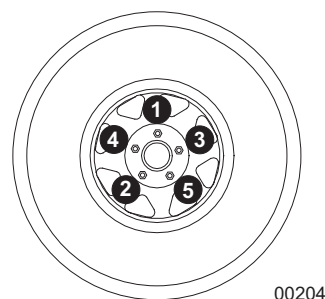

Figure 3-10. Tightening Wheel Lugs
7. See Figure 3-10. Check the wheel lugs. Tighten or replace any lugs that are loose or missing. If a tire has been removed for axle service or replaced, tighten the lugs, in the order shown, to the following specifications: